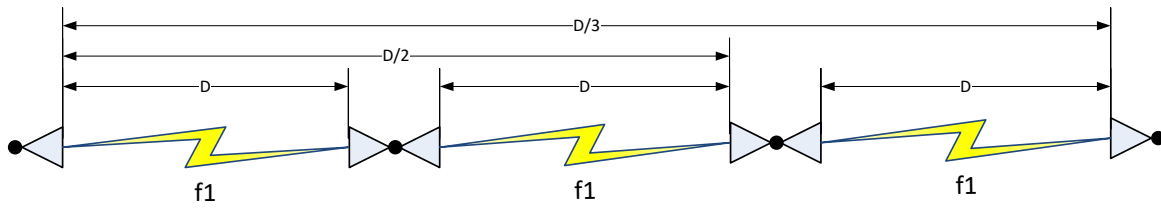

Figure 3 MND5-M MagiNode™
- 2- MND5-M (Figure 3): has a built in 13 dBi Antenna. It is less expensive and can be used for shorter hops when needed. Has MIMO and therefore is capable of 50 Mbps over hops of up to 3 km.